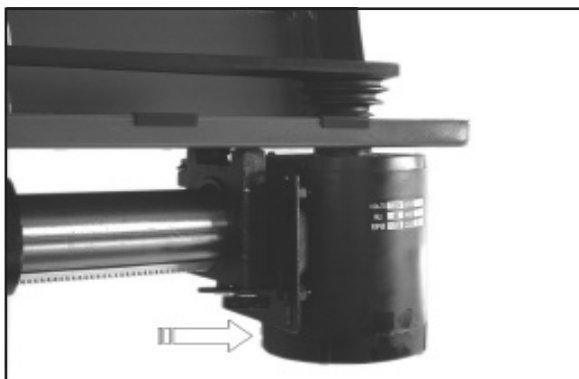

Figure 27
6. Push back on the motor until there is approximately 1/2" deflection in the belt. Fig. 27.